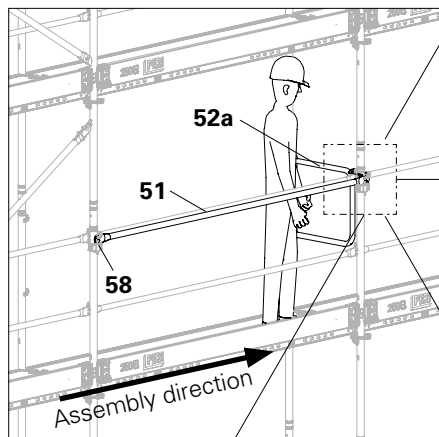

Fig. B9.02b
6. Attach a temporary additional Guardrail Post EPG (51) to the outside of the Guardrail Couplings EPR.
7. Make suitable amendments to the fitting order of the guardrail posts. (Fig. B9.02b)